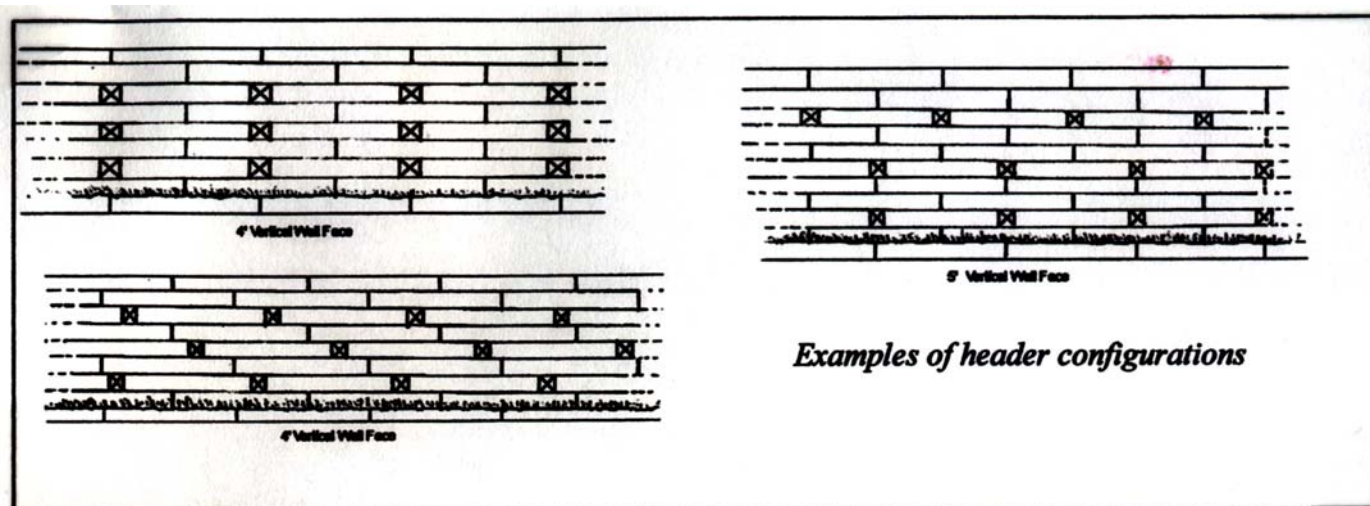

Figure 11. Examples of header placement and configuration. From: SULIS: www.sustland.umn.edu .
3. Tiebacks, headers and deadmen are portions of timbers placed into the soil behind the wall to strengthen the wall. Excavate for headers and deadmen into the hill. The size, length and location of headers and deadmen will be design specific (Figure 11). Headers can extend 1½ to two inches past the wall face to add strength and to prevent splitting (Figure 12). In some cases this is also considered a decorative feature